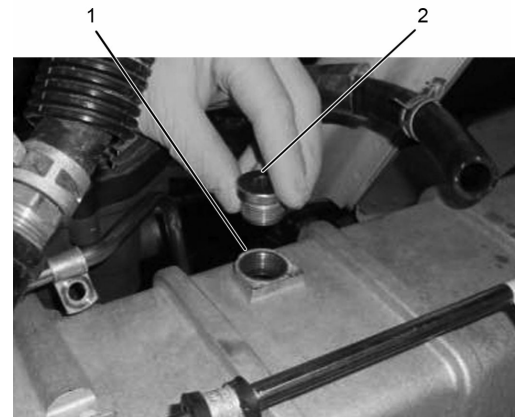

Figure 3
6. Install Allen plug (Figure 3, Item 2) into top of EGR high-temperature cooler heater supply port (Figure 3, Item 1). Using torque wrench, tighten Allen plug to 18 lb-ft (24 N•m).